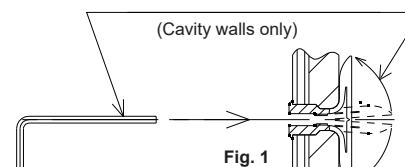
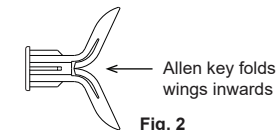

Fig. 1
Fig. 2
- Fold the wings of the wall anchor/s (1) inwards, as shown in (Fig. 2).
- Insert the folded wall anchor/s (1) into each drilled hole and tap until the head is flush with the wall surface.
- Place the mounting block/s (2) against the wall, then pass the screws (3) through holes of the mounting block/s (2) and assemble into the wall anchors (1).
- For Towel Rails and Bathroom Shelf: check alignment of both mounting blocks (2) before tightening screws (3).
- Fold the wings of the wall anchors (1) inwards, as shown in (Fig. 2).
- Insert the folded wall anchor (1) into each drilled hole and tap until the head is flush with the wall surface.
- Insert a small allen or nail into the hole of the anchor (1) to spread the wings of the anchor behind the wall (Fig.1).